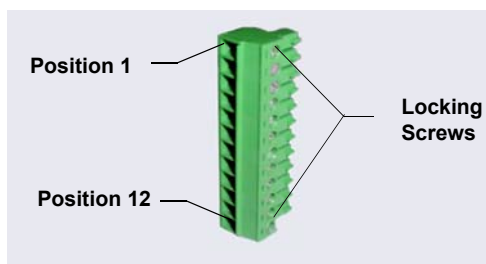

Figure 2-35. 12-Position Connector Plug
1. Locate the twisted pair of wires (P/N 043598) and 12-position connector plugs (P/N 923686) (see Figure 2-35) provided with the I/O option board.